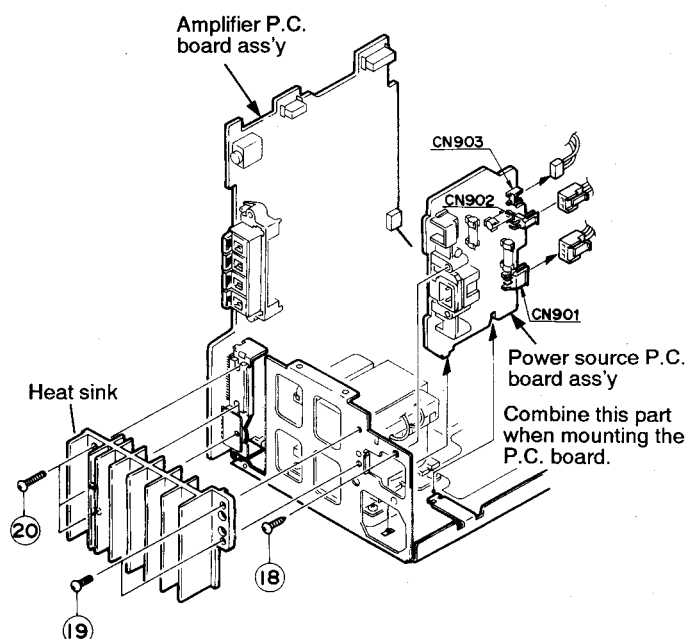
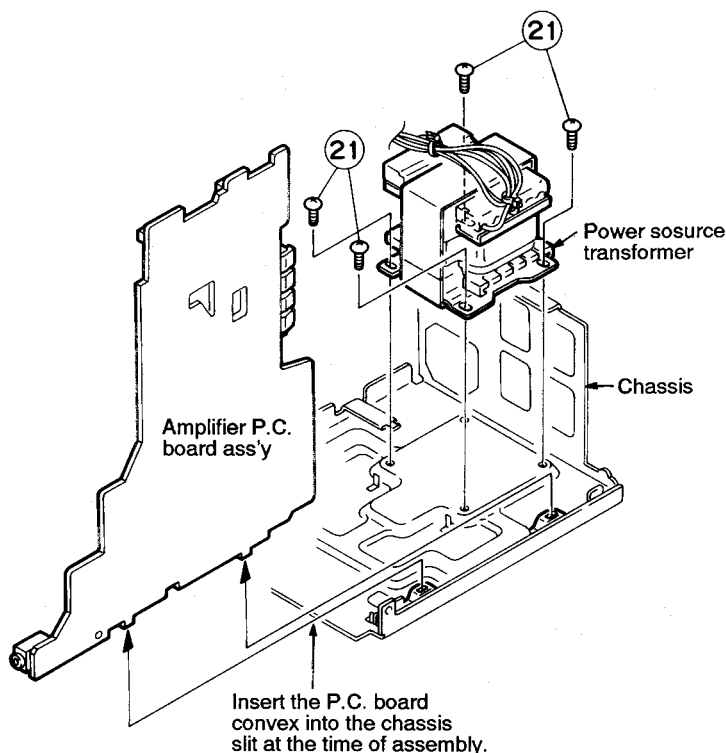

Fig. 7-20
Fig. 7-21
■ How to Remove the Power Source P.C. Board (Refer to Fig. 7-20)
6. Remove the one screw (18) retaining the AC jack.
■ How to Remove the Amplifier P.C. Board (Refer to Fig. 7-21)
3. Remove the two screws (19) retaining the heat sink.